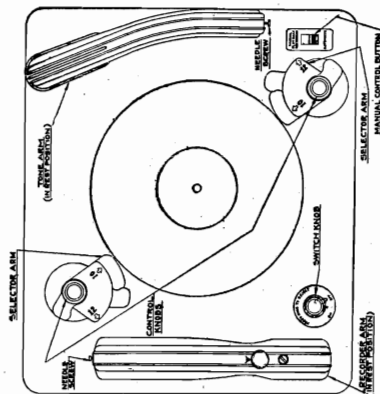
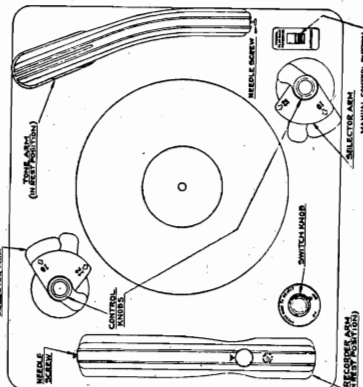

Fig. 2
Fig. 3
First switch off the motor. Grasp each post by its knob at the top and turn them out of the way. Return the tone arm to the rest position. Lift the played records from the turntable. Then return the posts to the proper playing position as indicated by the arrows on the selecting arms. (See Fig. 2 and 3). The Changer may then be loaded with a new stack of records according to the size shown on the selecting arms.
On each post there are selecting arms (See Fig. 2 and Fig. 3) and their position determines the setting for different size records. To set for 10 or 12 inch records, it is merely necessary to grasp the posts by the knobs at the top, lift, and turn until the 10" or 12" arrows are pointing toward the center of the turntable. When in either the 10" or 12" position, the posts will snap into place except when they are lifted by hand. Figure 2 shows the Record Changer with the selecting arms set for 10" records and ready to be loaded; the tone arm in the rest position. Figure 3 shows the setting for 12" records.
1. Move the manual control button (See Figure 2) to the "AUTOMATIC" position.